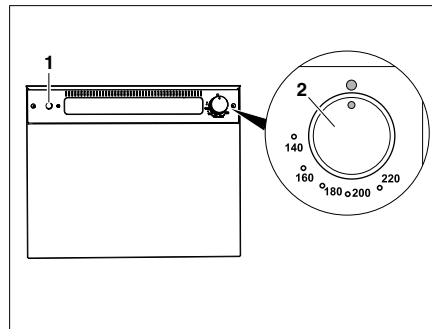

Fig. 326 Gas oven (Thetford)
- Gently press the control knob (Fig. 326,2) and turn left to any position.
- Press the ignition switch (Fig. 326,1) repeatedly until there is a flame.
- Turn the control knob (Fig. 326,2) to "O". The flame fades.